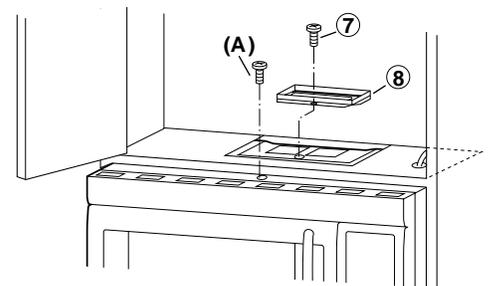

Figure 20
5. Replace and tighten one screw (A) (removed in Section 7 on page 4) to the outercase cabinet. See Figure 20.